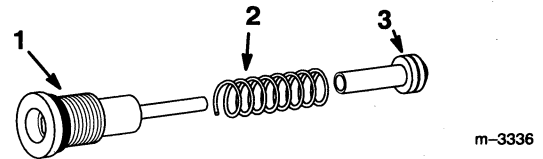

Figure 3
1. Assemble new poppet check valves (Fig. 3).